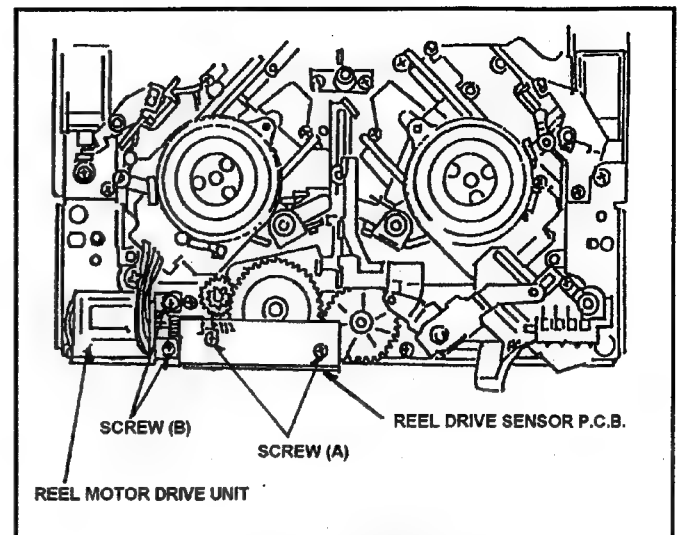

Fig. 6-16-1 Removal of Reel Drive Motor Unit
5. Unscrew the 2 screws (A) and remove the Reel Drive Sensor P.C.Board as shown in Figure 6-16-1.
6. Unscrew the 2 screws (B) and remove the Reel Drive Motor Unit as shown in Figure 6-16-1.